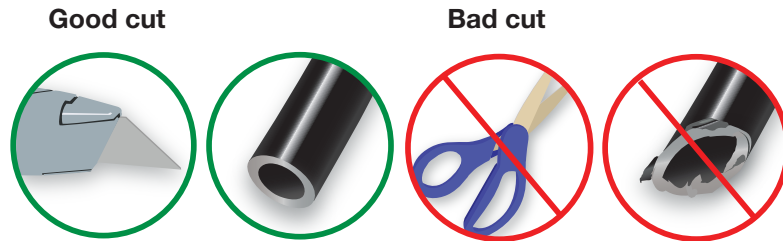

fig. 16
1. Cut the air line in half. Make clean, square cuts with a razor blade or hose cutter (Fig. 16). Do not use scissors or wire cutters.